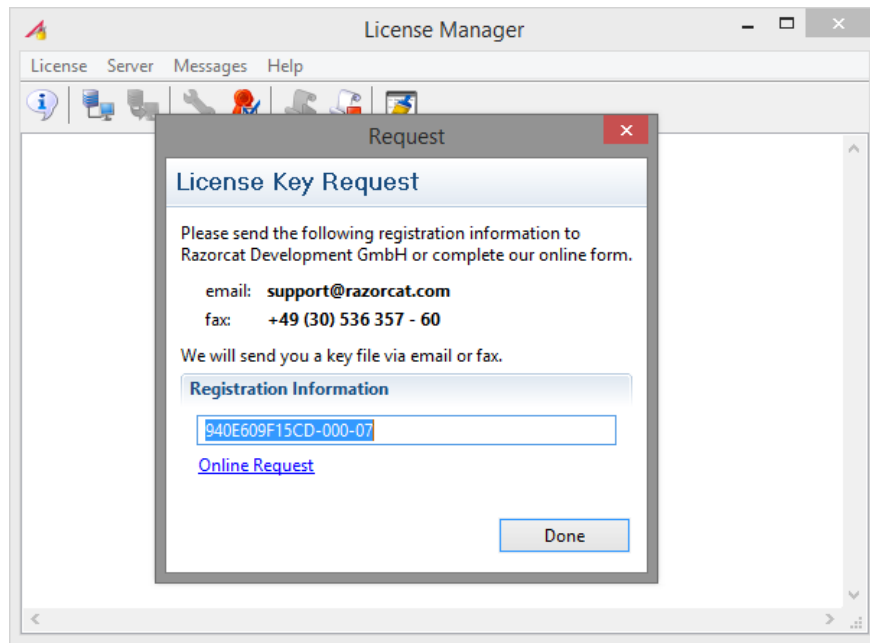

Figure 1.9: License key request popup window
If a valid license is found, TESSY will start. If there is no valid license, the License Manager will start with a License Key Request popup window (see figure 1.9).
The License Key Request popup window will appear (see figure 1.9).
- In the opening popup window click on “Done”. (see figure 1.9)